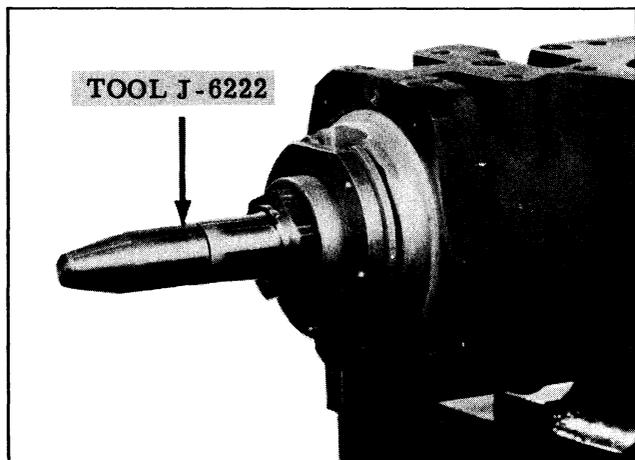

Fig. 5-63 Seal Protector
7. Place Tool J-6222 over splines of worm shaft, then install end cover and torque cap screws 25 to 30 ft. lbs; remove Tool J-6222. (See Fig. 5-63)